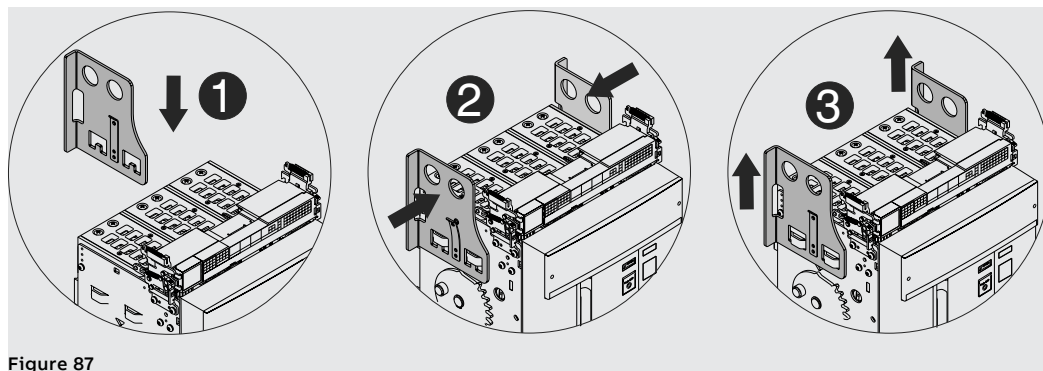

Figure 87
2. Position the lifting plates on the mobile part making sure that the tongue of the plates is latched properly. See Figure 87.